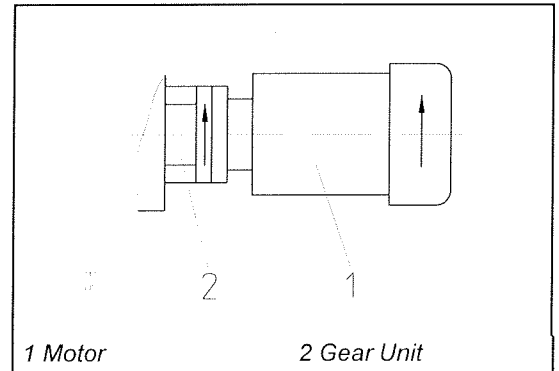

Fig. 5.1: Direction of the Motor Rotation
- Connect drive motor (1).
- Check the direction of rotation of the drive motor (1). An arrow on the fan cover of the motor and the gear unit indicates the direction of rotation (see Fig. 5.1).